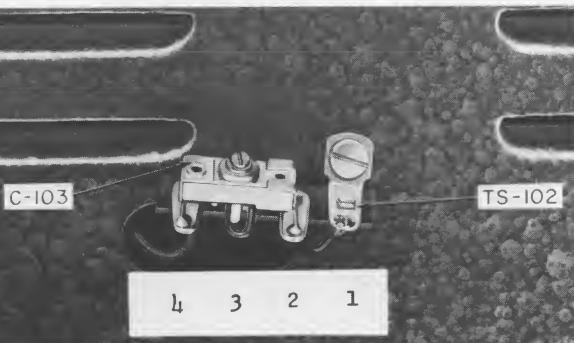

Figure 3: The four-lug terminal strip (TS-102) is mounted on the rear of the case.
(7) Remove the knock-out plate on the rear of the WO-33A case.
(8) Locate and mark a point on the rear of the case $2\frac{3}{8}$ " from the top, and $3\frac{1}{4}$ " from either side (center). At this point, drill a $5\frac{1}{32}$ " hole for inserting the TS-102 mounting screw.
(9) Mount the four-lug terminal strip (TS-102) on the rear of the case, as shown in Figure 3. Use the #6-32 screw, with the #6 lock-washer and #6 hex nut on the inside of the case.
(10) Replace the instrument in the case, passing the two wires connected to TS-101 through the knock-out hole.
(11) Cut the two wires so that they extend approximately 2 inches outside the case.
(12) Mount the 4- to 40- $\mu\mu$ f trimmer capacitor (C-103) on the terminal strip TS-102 between lugs #2 and #4, as shown in Figure 3. (The grounded lug is designated as lug #1.)
(13) Connect the grounded hookup wire